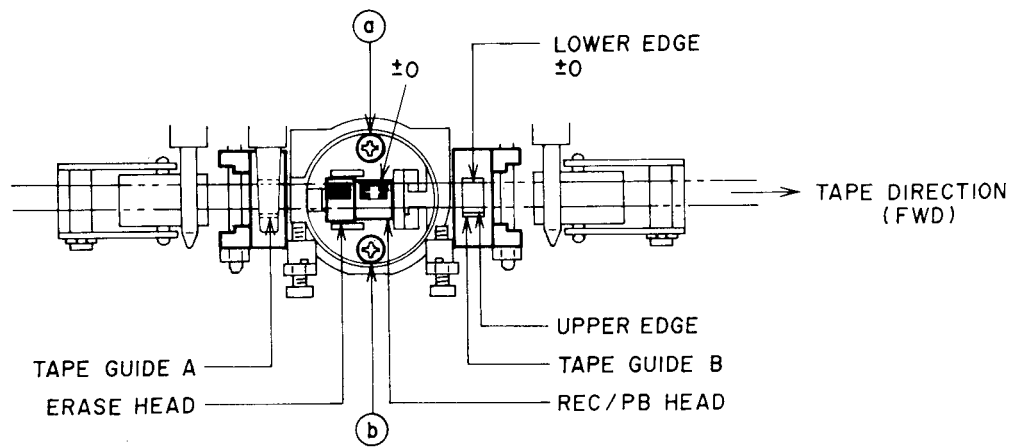

Fig. 6-1
(Refer to Figs. 6-1, 6-2, & 6-4)
- 5) When the head replacement is necessary, loosen only the screws **(a)** & **(b)** in Fig. 6-1 for easy replacement.